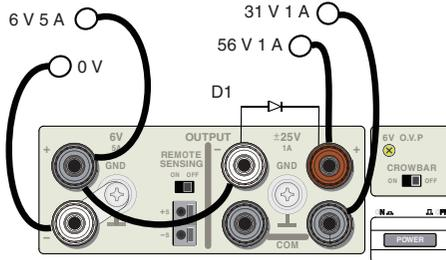

Fig. 4-8 Connection of series connection
- CAUTION** • In case of series connection as shown in Fig. 4-8, there will be 5 A of current flow at the $\pm 25 \text{ V}$ output if the output is short-circuit. and it may cause to burnout the internal diode used as a protection. Therefore, attach the diode "D1" (with rating of 5 A or greater) as shown in Fig. 4-8.
- If each output is used at the same time, the amount of current flow is limited by the rated value of each output. In case of Fig. 4-8, if 0.8 A is used for the 56 V output, 0.2 A for the 31 V output and less than 4 A for the 6 V output can be used. Moreover, if 0.3 A for the 56 V output and 0.5 A for the 31 V output are used, less than 4.2 A can be used for the 6 V output.